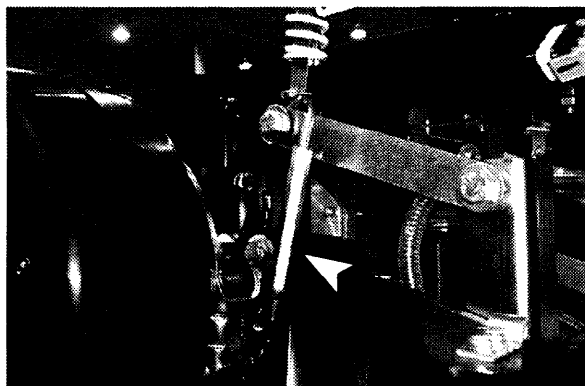

Figure 42
2. Locate hex link brake adjusters in front of each drive wheel (Fig. 42).